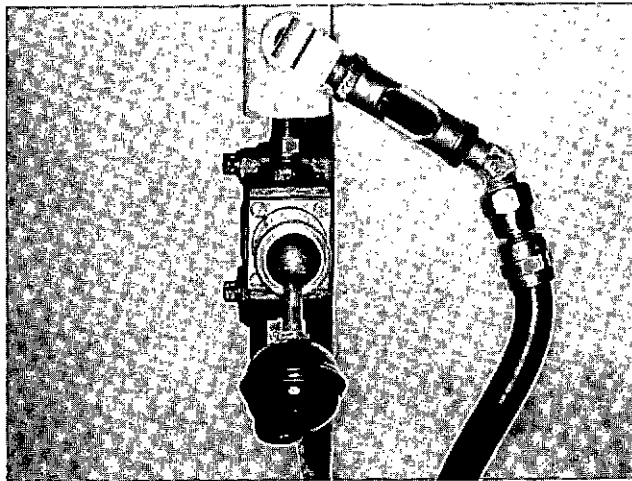

Fig. 4-47, (F60133). The hydraulic fluid sight glass
7. Open the air valve. While the cylinder rod is at the top of its travel, check to make sure there is no air in the hydraulic fluid sight glass, Fig. 4-47.